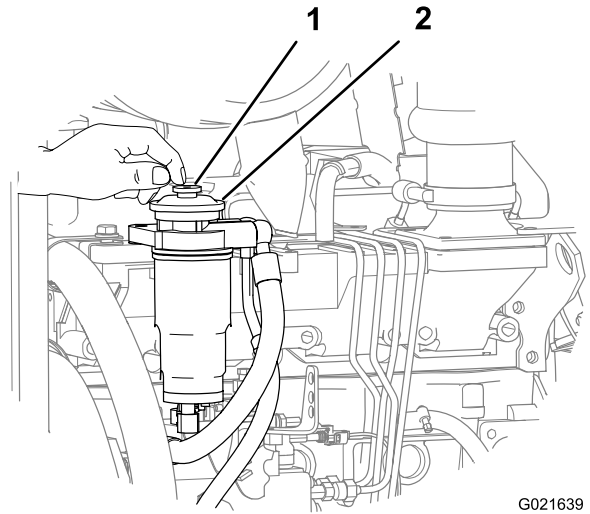

Figure 127
6. Locate the priming button on the top of the filter adapter for the secondary-fuel filter (Figure 127).
7. Press down and release the priming button repeatedly until you feel resistance when pressing the priming button (Figure 127).